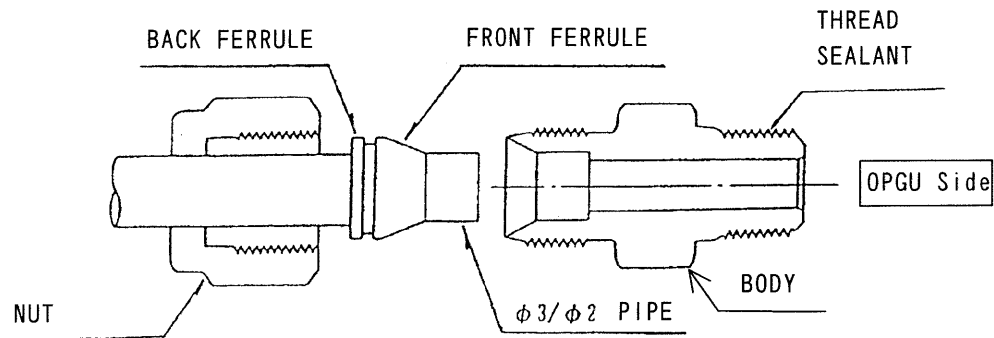

Fig. 6 JOINT
- 3) Insert the NUT and FERRULR (FRONT - BACK) into the pipe as (Fig. 6) then be tighten the cap nut with a spanner.